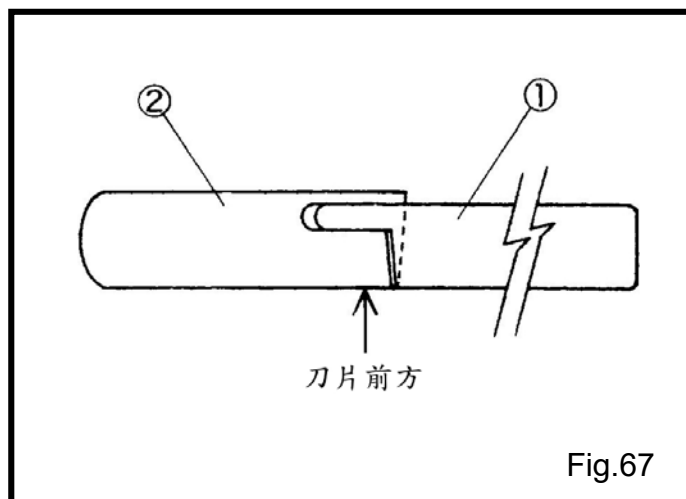

Fig.67
- (1) 當針在最高點，上切刀在左邊時壓腳要貼著針板上，上切刀①刀刃要貼合下切刀②的刀刃。(Fig.67)
上刀①和下刀②成一直線時，上刀不能碰到壓腳壁，正確後固定彈簧軸環。(Fig.67)
- (1) When the needle is at the highest point and the upper knife① is at the extreme left, the presser foot touches the stitch plate, and the upper knife① touches the lower knife② closely. (Fig.67)
Align the front sides of the upper① and lower② knives without touching the upper knife to the presser foot. After check them, fix the knife holder guide collar④ with the screw. (Fig.67)